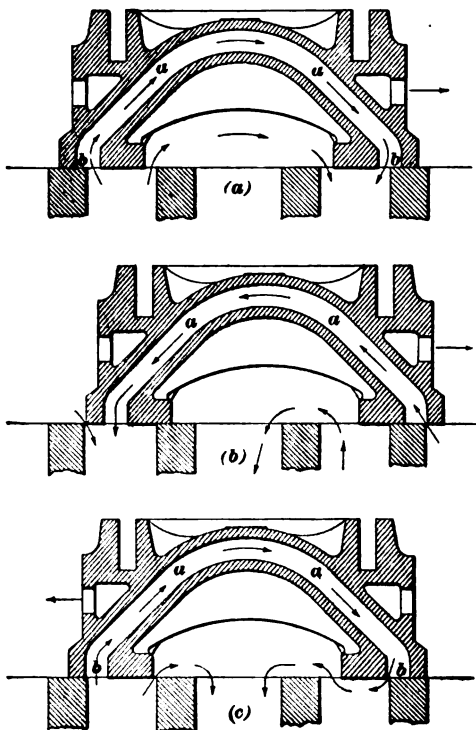

FIG. 51.
58. Fig. 51 represents sections of a slide valve of the Allen type, called by its inventor, Mr. C. J. Mellin, chief engineer
and also doubles the rate at which the port is opened and closed at admission and cut-off. The valve shown in Fig. 51 not